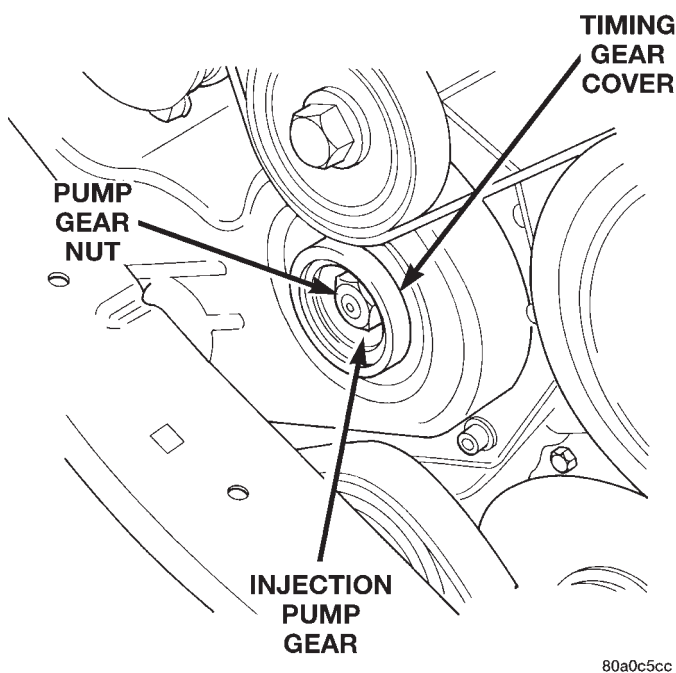

Fig. 36 Removing Pump Drive Gear Nut
(12) Remove injection pump drive gear nut (Fig. 36) and washer. **CAUTION: Be very careful not to drop the washer into the timing gear cover.**